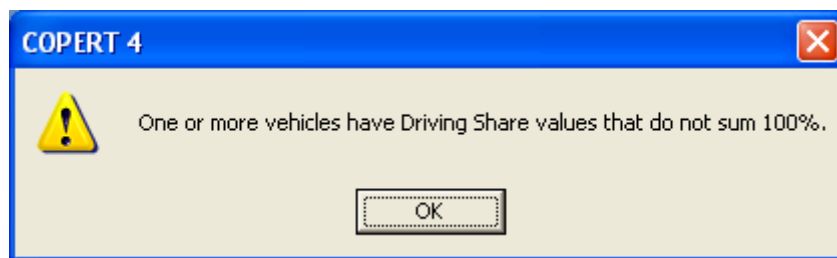

Figure 11 – Error message displayed when 100% driving share is assigned to each or urban, rural or highway
- Click 'Cancel' on this screen in order to avoid getting the error message shown in Figure 11.